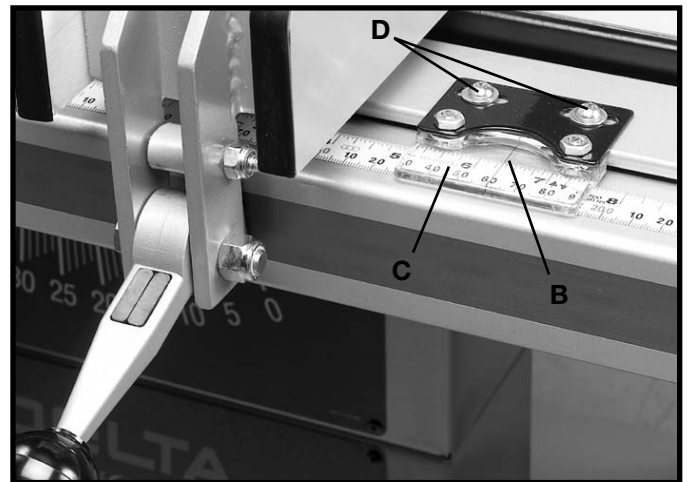

Fig. 144
2. The distance the fence is positioned away from the blade is indicated by the witness line (B) Fig. 144, located on the cursor (C). To adjust the cursor (C), make a test cut with the fence locked in position. Measure the width of the finished cut and adjust the cursor (C) by loosening the two screws (D), adjusting the cursor (C) until the witness line (B) is aligned with the same marking on the scale as the finished cut. Tighten the two screws (D).